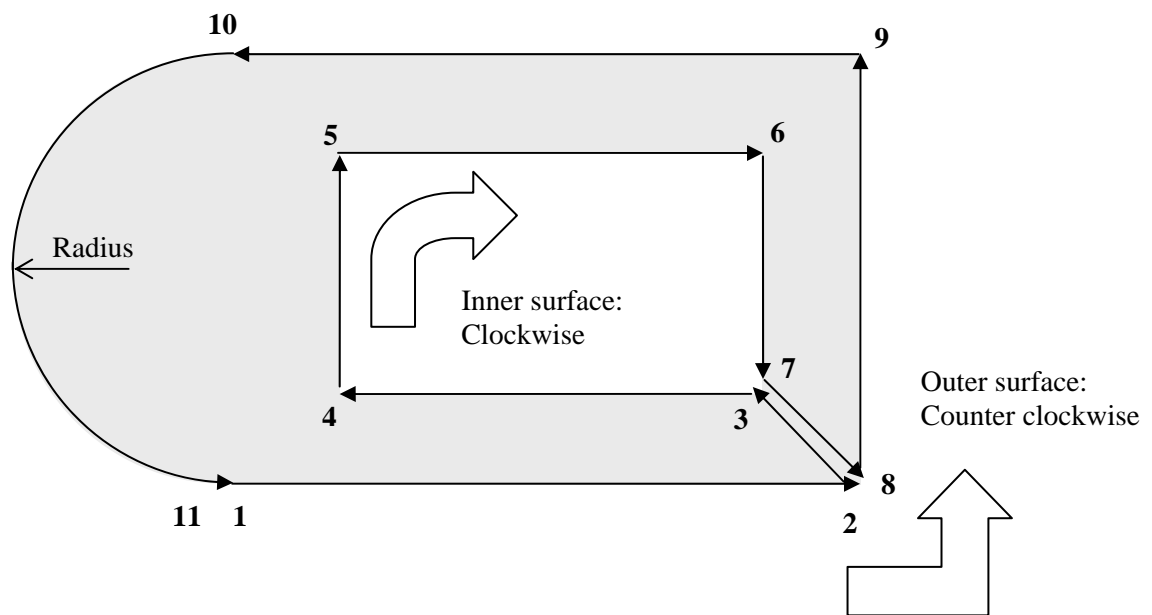

Fig. 7.4 Free section shape - General
- Corresponding section points when going from outside to inside of the cross section must have matching coordinate values (section point 2 and 8, and section point 3 and 7 in fig 7.4)